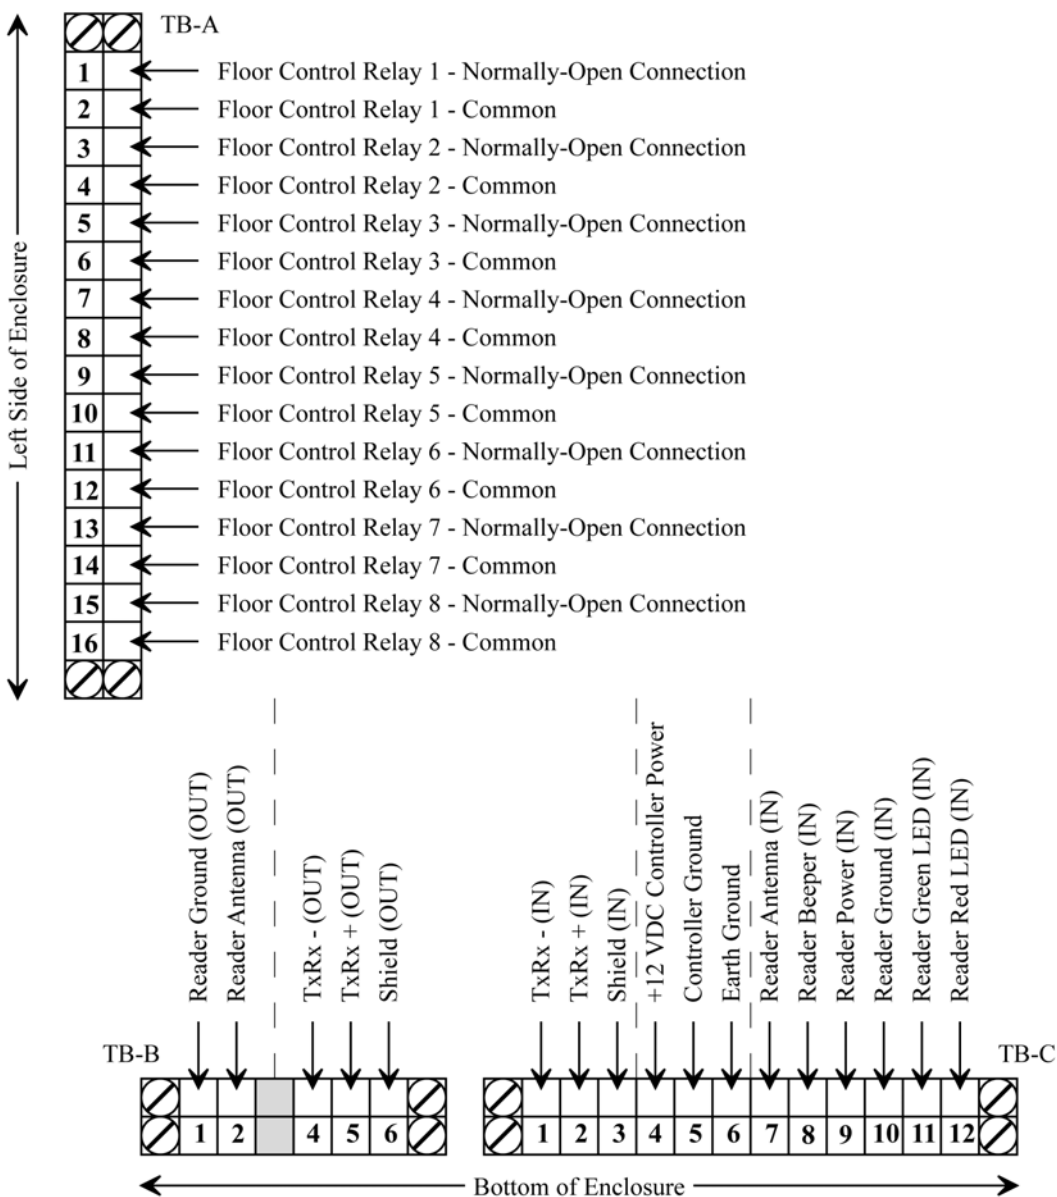

Figure 10: LC-508 Elevator Panel Wiring Connections
Figure 10 provides a diagram of these terminal strip connections.
1. Make a complete set of connections to the LC-508P panel. Refer to Section 5.3 on page 15 and Figure 10 on page 15 for all connections to the LC-508P.